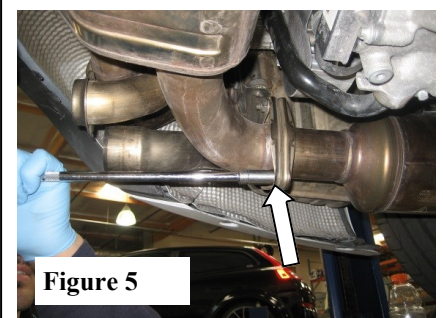

Figure 5
5. Using a 13mm socket remove bolts from flange on both sides. (See Fig. 5)